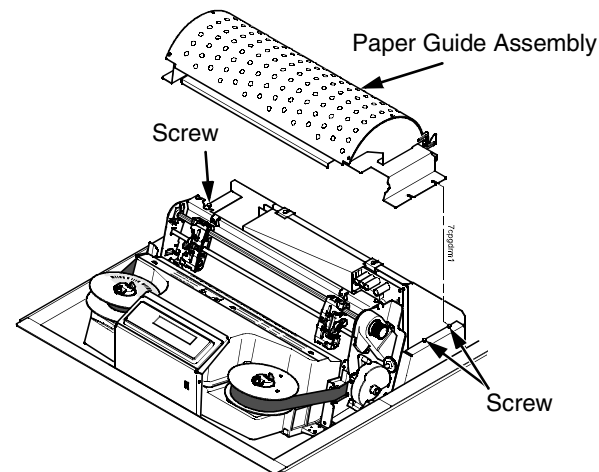

Figure 19. This figure shows how to remove the paper guide assembly from the card cage.
3. Loosen—do not remove—the three paper guide assembly hold-down screws (Figure 19).
1. Position the paper guide assembly offset slightly to the left on the card cage with the keyway cutouts over the three loosened hold-down screws (Figure 19).
3. Tighten the three hold-down screws (Figure 19).